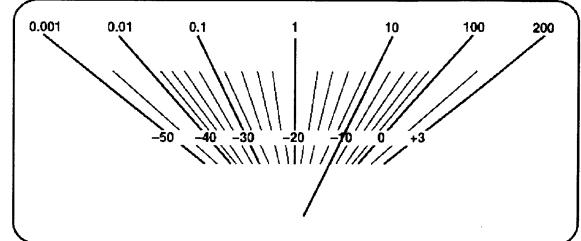

Fig.4
5. Adjust VR909 (L ch) and VR910 (R ch) so that the power meter indicates 10 W. Shown in Fig.4